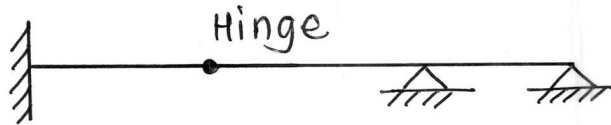

Figure 1
- a) A structure is shown in Figure 1. From flexibility method and stiffness method, which method of analysis you will prefer. Explain with reason. 05